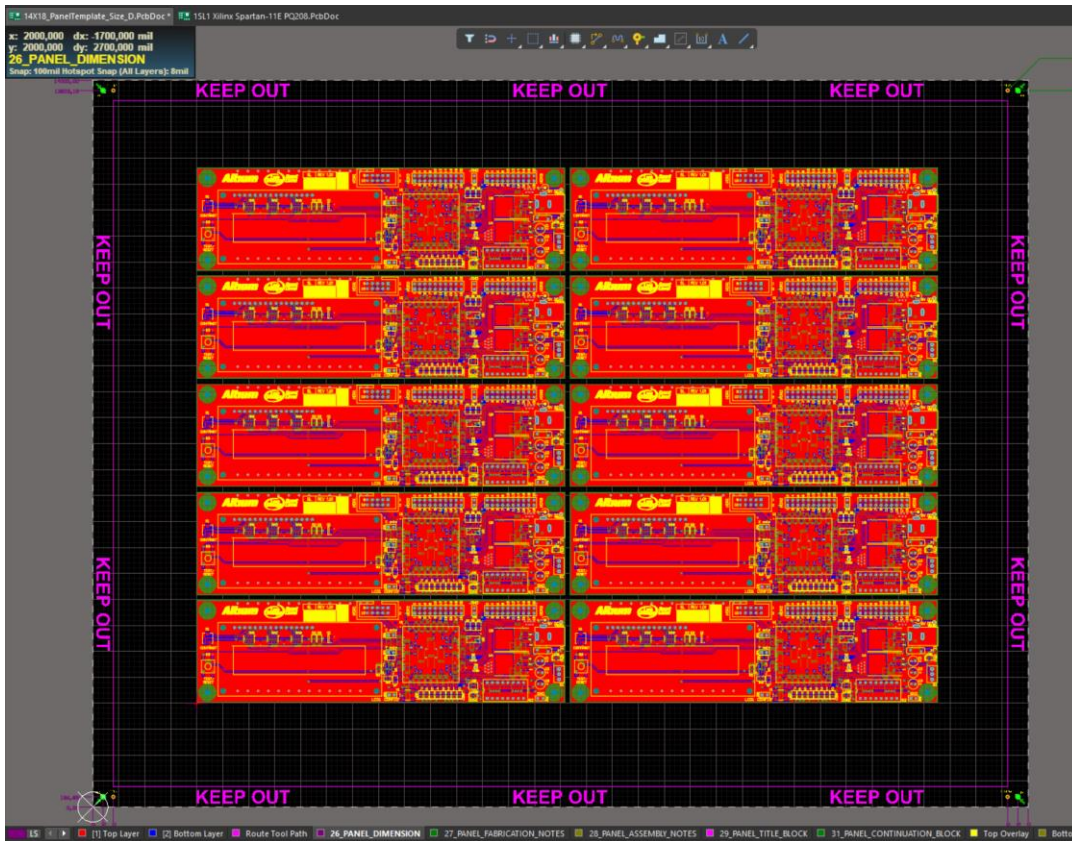

Figure 4. Placed Embedded Board Array
8. Click the **Pause** icon  to resume placement and place the Embedded Board Array at the Location x:2000 y:2000 mil, as shown in Figure 4
9. Once the Embedded Board Array has been placed, press **Escape** or **right-click** to exit the placement mode. Your display should look like Figure 4.